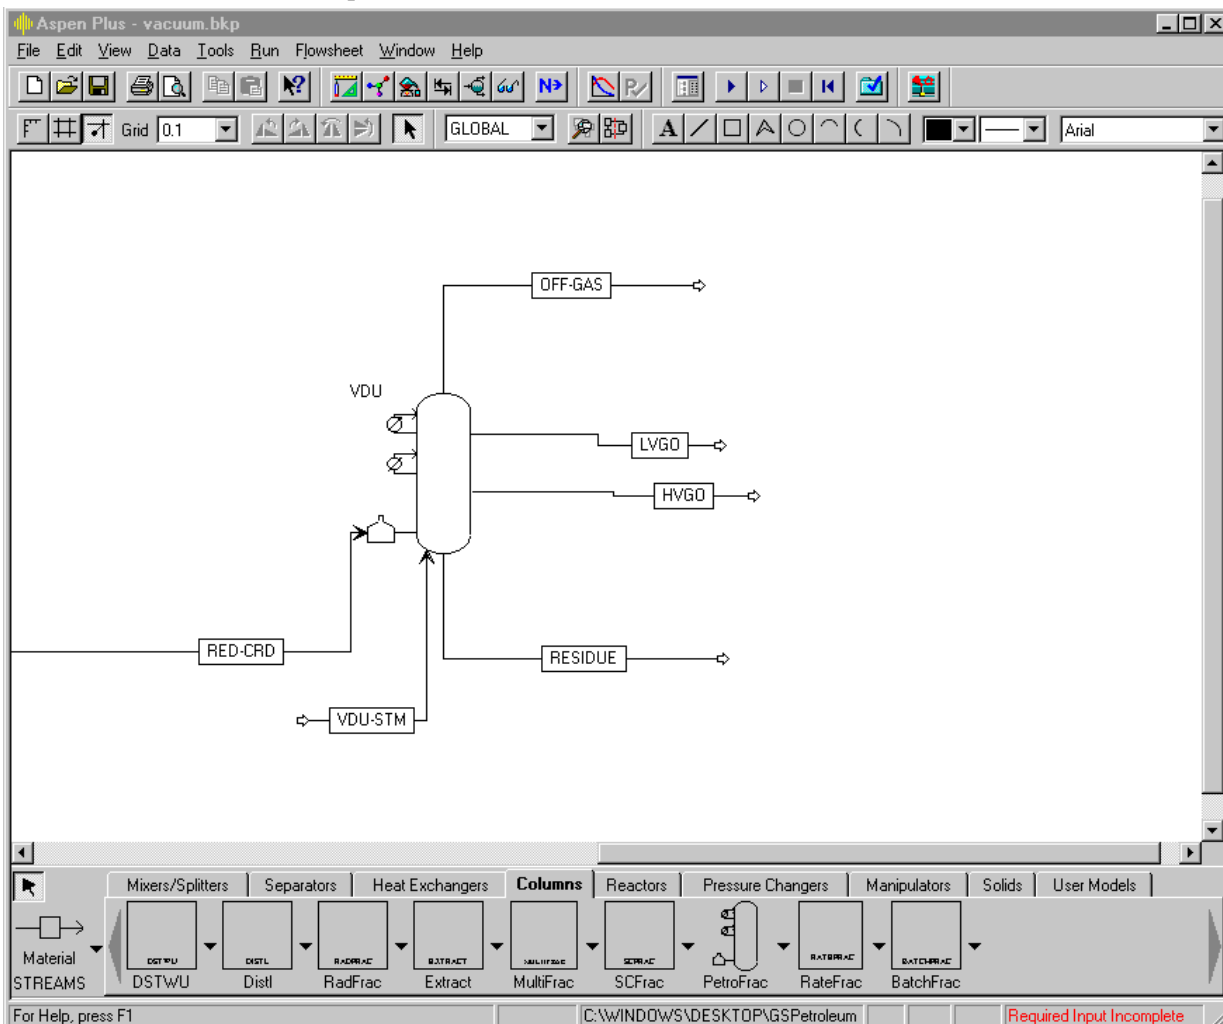

Figure 4.2 The Vacuum Unit
- Press and hold the left mouse button within the region and drag the flowsheet to the left, as shown in Figure 4.2.
Next, you will place and connect the vacuum unit on the flowsheet to create the process flowsheet in Figure 4.2. If you need to review how to create a graphical simulation flowsheet, see *Getting Started Building and Running a Process Model*, Chapter 2.
- Place the VACUUM1F icon in the flowsheet, as shown in Figure 4.2. Name the block **VDU**.
- Connect, move, and name the streams, as shown in Figure 4.2, using the port information below for guidance.